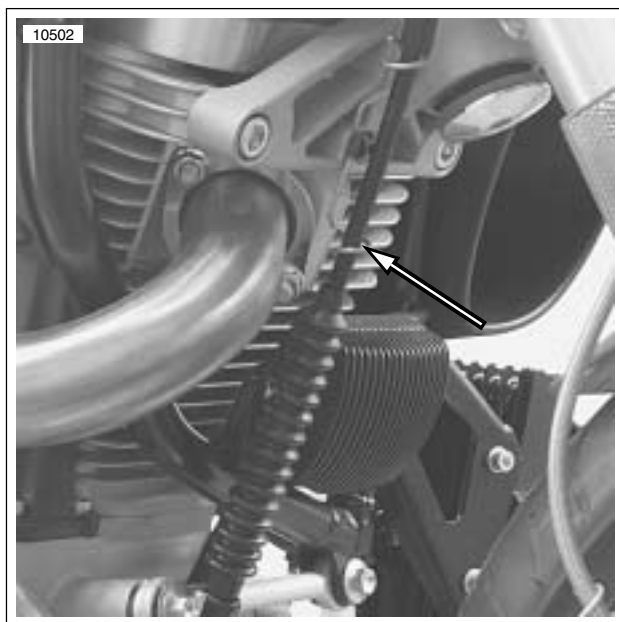

Figure 3-11. Clutch Cable Wire form
10. See Figure 3-11. Pull clutch cable back up into the proper position.